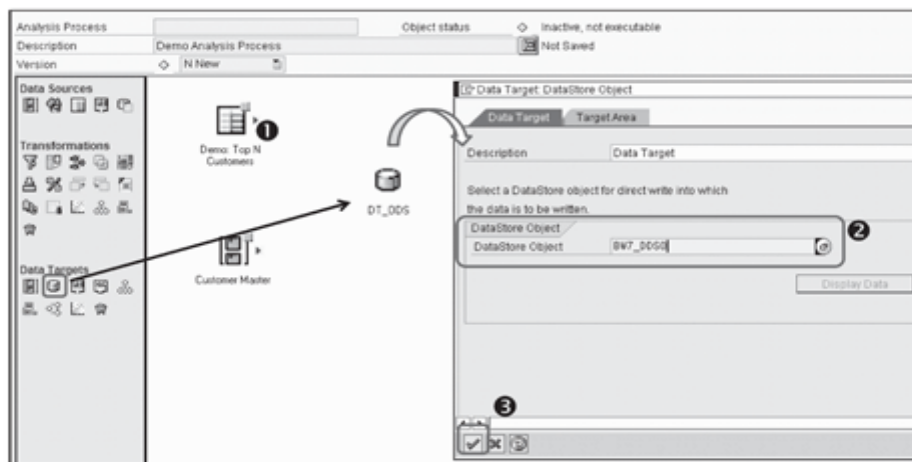

Figure 15.9 Add Data Target – Direct Update DSO
3. Drag the Direct Update DSO icon from the Data Targets area to the design area (❶ of Figure 15.9), and select the direct update DSO to where the data from the analysis process should be saved (❷). Press Enter to return to the design screen.